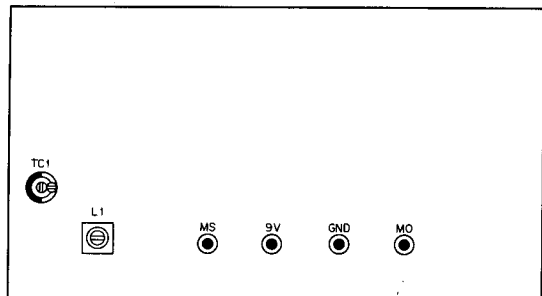

Fig. 29 MARKER unit
- 2) Set the FUNCTION switch to CAL 25 kHz and adjust TC1 in the marker unit for 100,000 Hz  $\pm$  1 Hz (refer to **Fig. 29**).